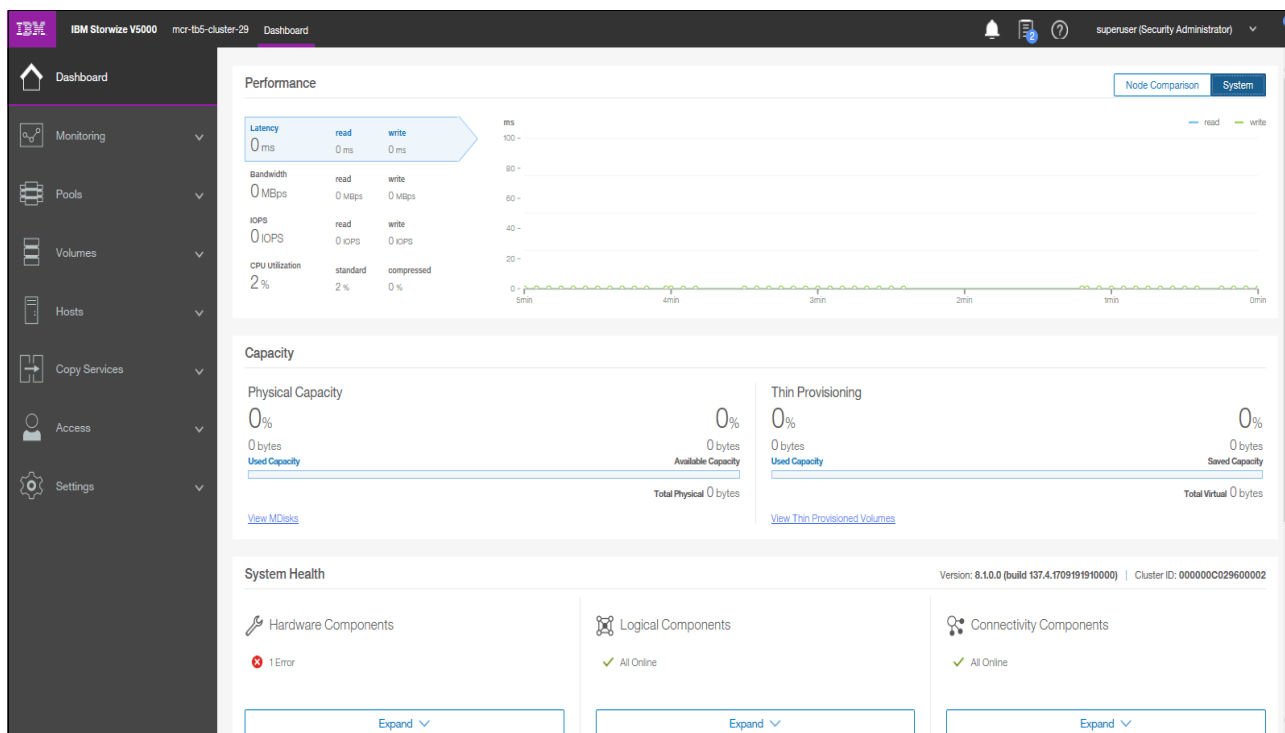

Figure 3-2 A first view
- After a successful login, the System pane displays the Dashboard with all relevant details of your system. Shown in Figure 3-2.